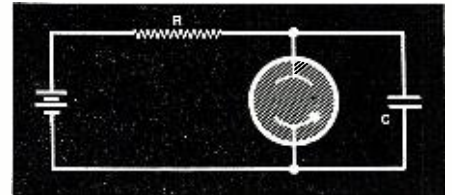

Fig. 8. Relaxation oscillator.
This can be demonstrated by building the relaxation oscillator shown in Fig. 8 using an ordinary neon bulb with the limiting resistance removed from the base, and enclosing the entire apparatus in a light tight box. The oscillations will be very erratic and will not be at all the constant oscillations seen when the apparatus is in the light. The oscillations are seen as flashes in the neon bulb provided the frequency of oscillation is slow enough.
The application of glow discharge tubes is as follows: (1) as voltage regulators, (2) as oscillators, (3) for the production of modulated light and light for display purposes such as the neon sign, (4) as rectifiers, (5) as current and power control devices, (6) as amplifiers, and (7) for the protection of meters and other apparatus against surges. Voltage regulation devices have already been discussed. A circuit for a gas-filled regulator is shown in Fig. 9. A glow tube such as a neon or argon bulb can be used to generate oscillations. A circuit for this is shown in Fig. 8. The condenser C is charged by the battery through the resistance R. As soon as the potential on the condenser reaches the value of the ignition voltage of the neon bulb, the neon bulb becomes conducting, and the condenser discharges through the bulb until the condenser voltage falls to the extinction value of the neon bulb and the discharge goes out. Then the cycle is repeated. The type of oscillations produced by such a circuit is shown in Fig. 10. An oscillator working on the above principle is called a relaxation oscillator. Details for the use of this type of oscillator can be found in any book on electron tubes.²